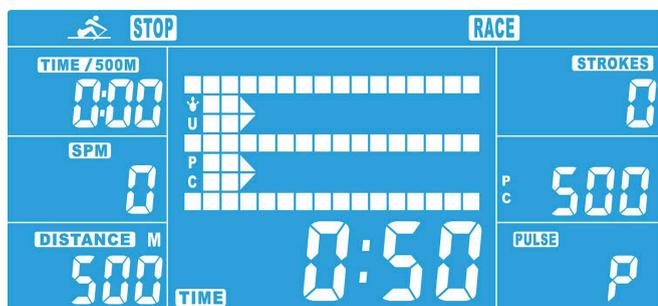

figure 14
4. As soon as one of the pre-set values is reached the console will stop. The data for the PC or for the USER will be displayed (fig. 14). A signal will be heard. Press any button to stop the signal.